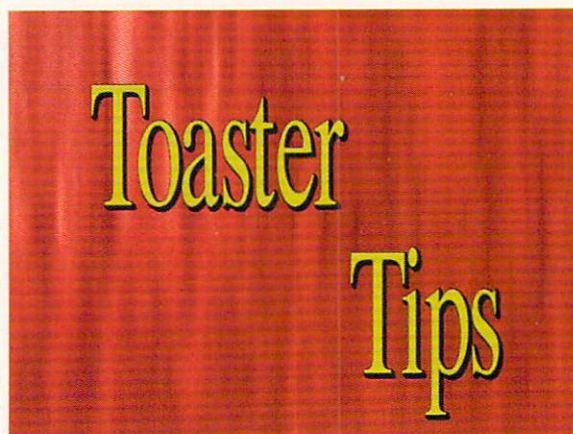

Figure 1: This image was created with the Curtain Backdrop tip. Text was added using InnoVision Technology's Montage CG.
- Step 10: Follow steps 6, 7, 8 and 9 until the logo is clean enough for use in your project. See Figure 1.
**Rx:** The doctor is willing to bet that you have neglected, or did not know, that you were required to provide a genlock signal to each camera. Set up as you have it, each camera operates on its own, having no way to synchronize its efforts with its neighbors. Once the cameras are genlocked, they are all lock-stepped together. They can now all march to the same drummer. See Figure 1.